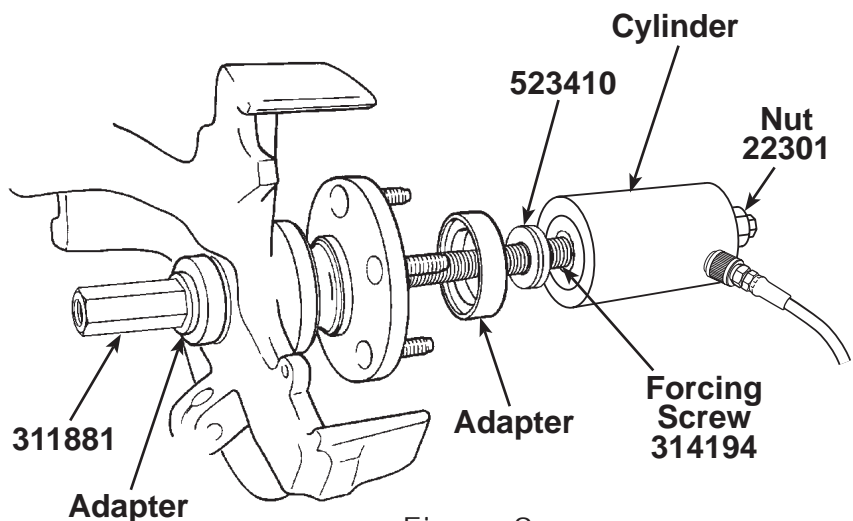

Figure 9
1. Assemble the tool components as shown in Figure 9.